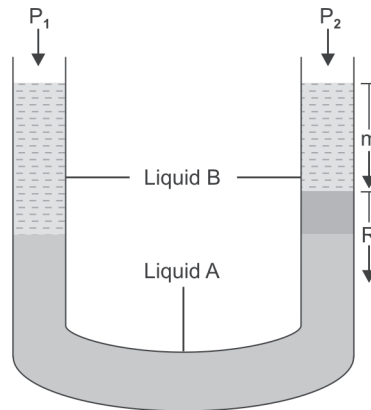

Fig. 1.5: U-tube manometer
b. U-tube manometer: It operates on the **principle of hydrostatic balance**. It is a U-shaped tube filled with an immiscible liquid, opens at both ends. In it, one end is attached to the fluid system and its pressure is to be measured whereas the other end is open to the atmosphere. At first, when the liquid enters the manometer the level of liquid is same in both the arms of manometer. As one arm of the manometer is under examination, the liquid falls in one arm and the level increases in the other arm. The gauge pressure of the system can be determined by the variation in the levels of the liquid as one of the ends is open to the atmosphere as it is shown in Fig. 1.5. For measuring high pressures a liquid used is heavy manometer, and for measuring low pressures liquid used is a light manometer.